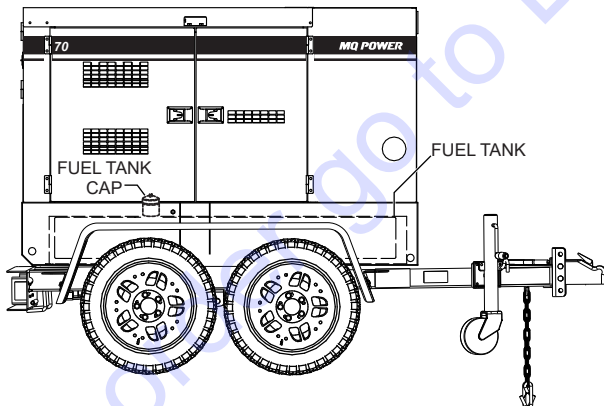

Figure 24. Fuel Tank
**ALWAYS** fill the fuel tank (Figure 24) with clean, fresh #2 diesel fuel. **DO NOT** fill the fuel tank beyond its capacity.